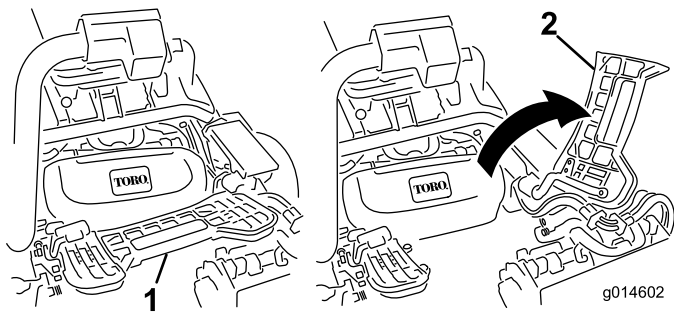

Figure 29
- Lift up on the foot rest and swing it open, allowing access to the center cutting unit position (Figure 29).